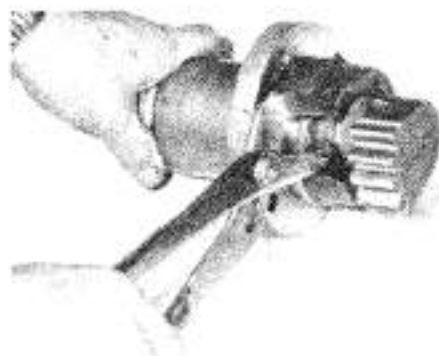

Fig. 13—Snap ring must be removed from housing before pitman shaft can be withdrawn.
Pitman shafts (36 and 48) and related parts can be withdrawn from housings (44 and 49) after snap ring (37) is removed as shown in Fig. 13.